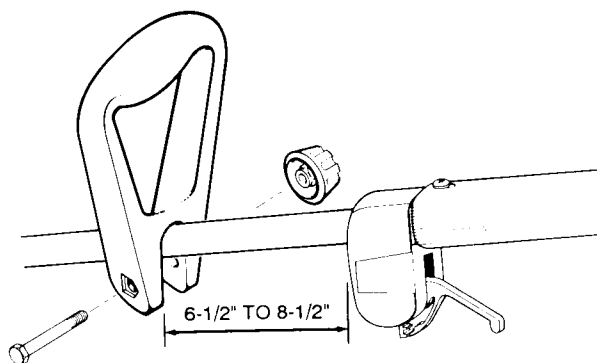

Figure 4-1A
1. Loosen adjustment knob and rotate handle to top of shaft. (Figure 4-1A)